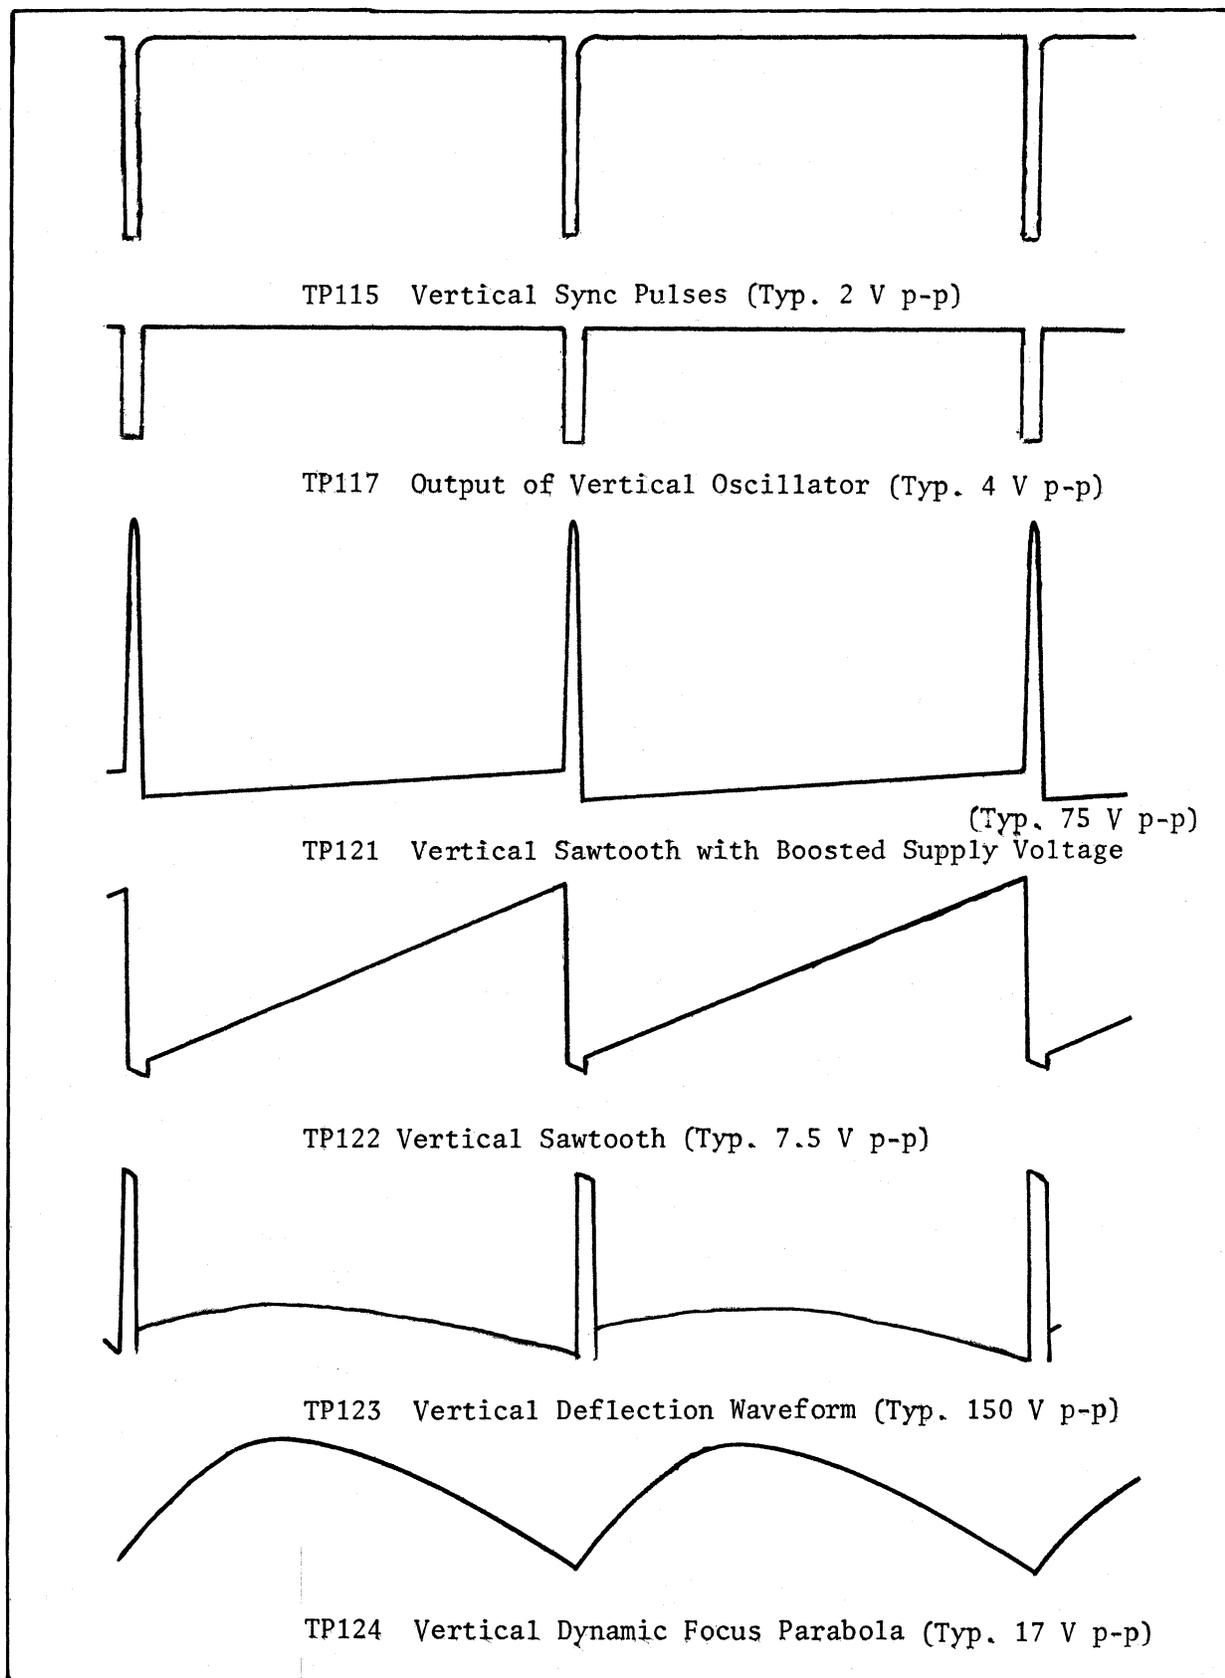

Figure 4.2 Vertical Timing
4.3.9 Vertical Section (Refer to Figure 4.2 for Timing Diagram)